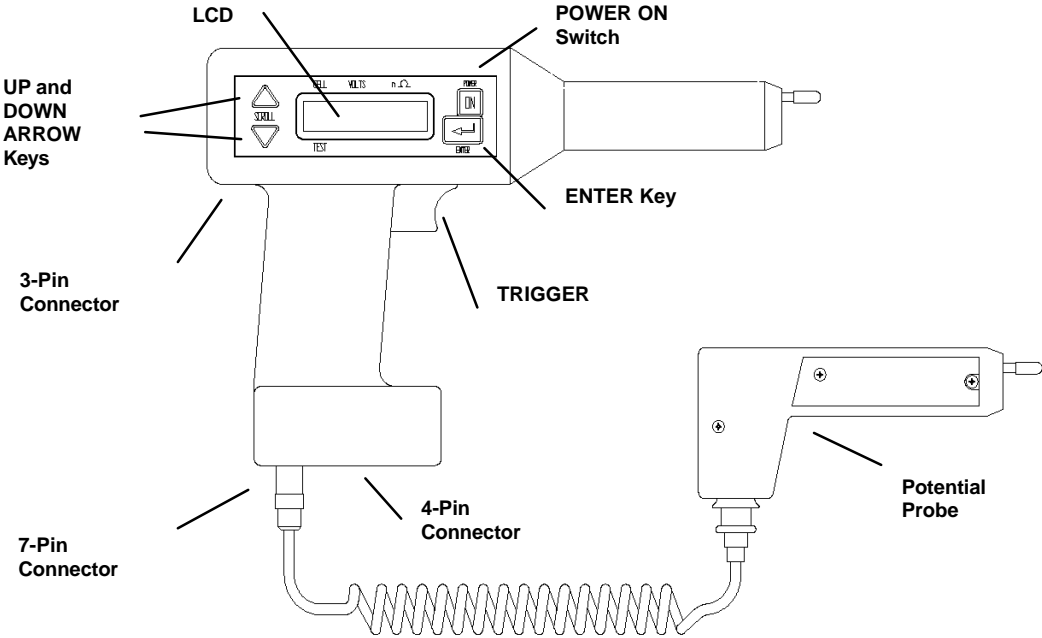

Figure 4-4: Receiver controls, connectors, and indicators
- 2. Connect the plug of the CT to the 4-pin connector on the **receiver**. Figure 4-4 shows the location of the 4-pin connector.